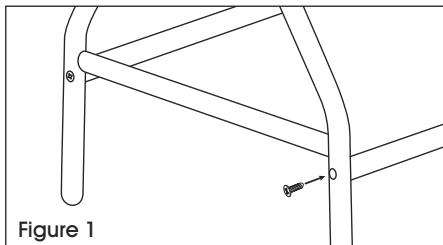

Figure 1
1. Attach two connector bars (E) to leg assemblies (A and B) using screws (G). (See Figure 1)